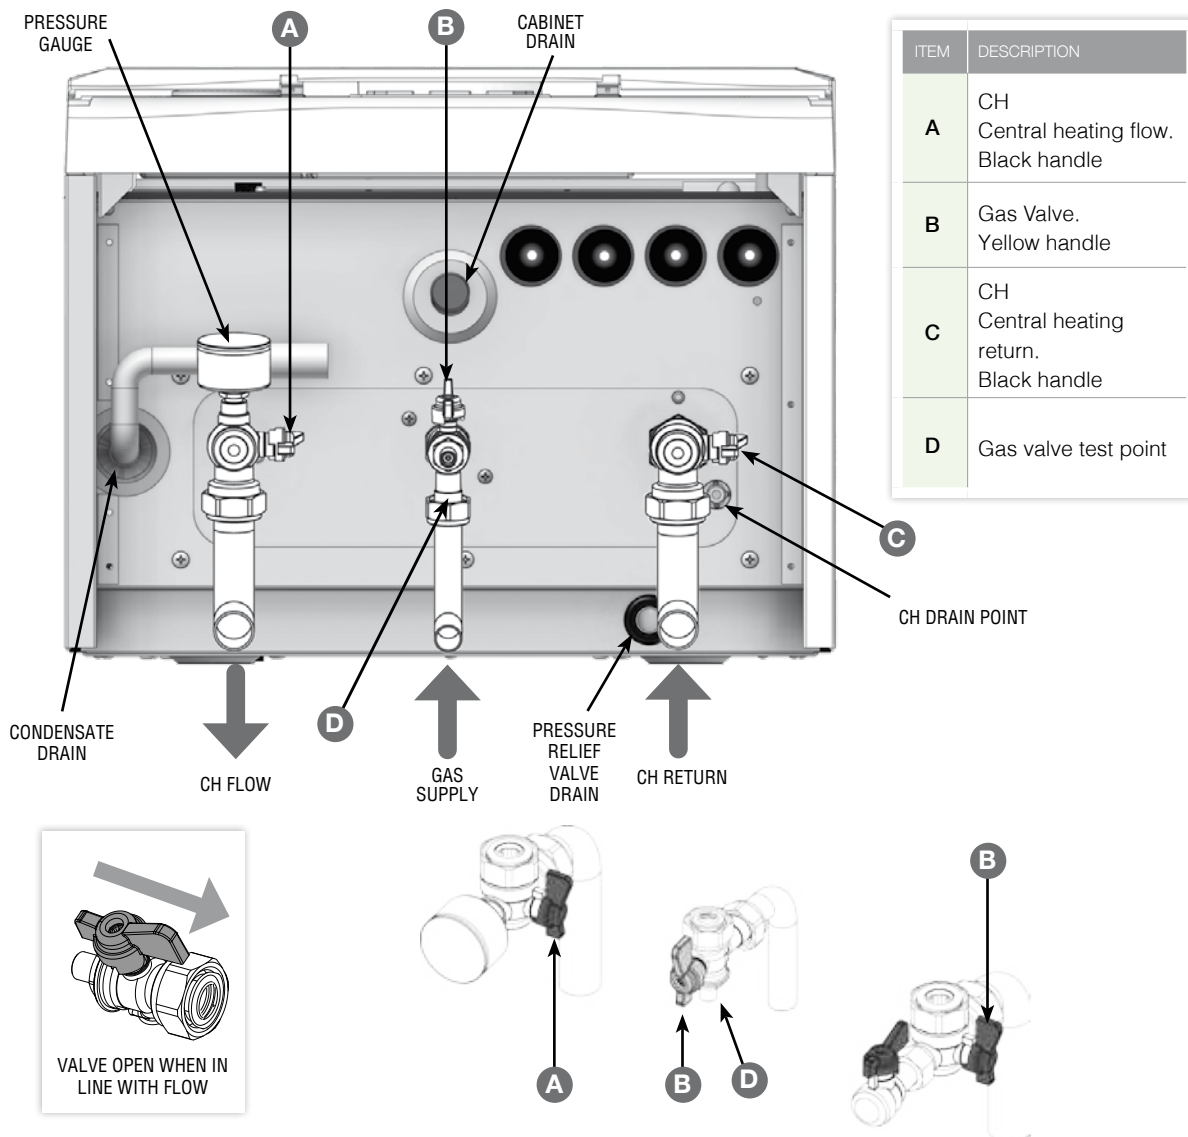

FIGURE 25. VALVES, TAIL PIPES & CONNECTIONS
NOTES. Ensure all boss blanking plugs are removed before connecting hardware. Each valve must be fitted to the correct boss as shown. See Figure 25.
14.4.1 The drain comprises of a 15mm diameter stub pipe. See Figure 25.